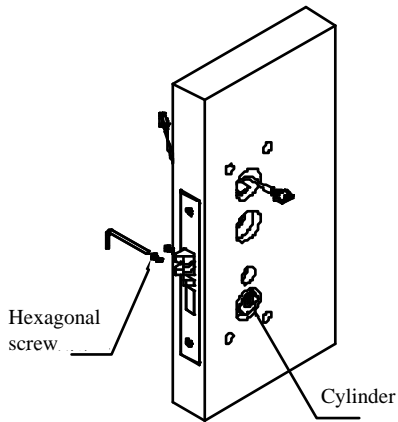

Figure 11
11) Install the locking head, locking head must be installed from outside, then use hex wrench tight 2 hex socket screws inside the door. Show as Figure 11.